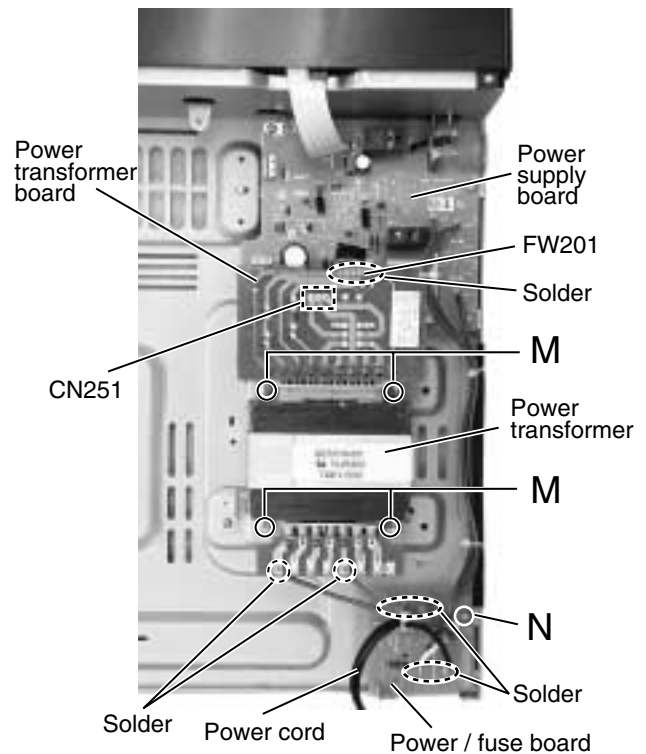

Fig.13
■ Removing the power transformer (See Fig.13)
■ Removing the power / fuse board (See Fig.13)